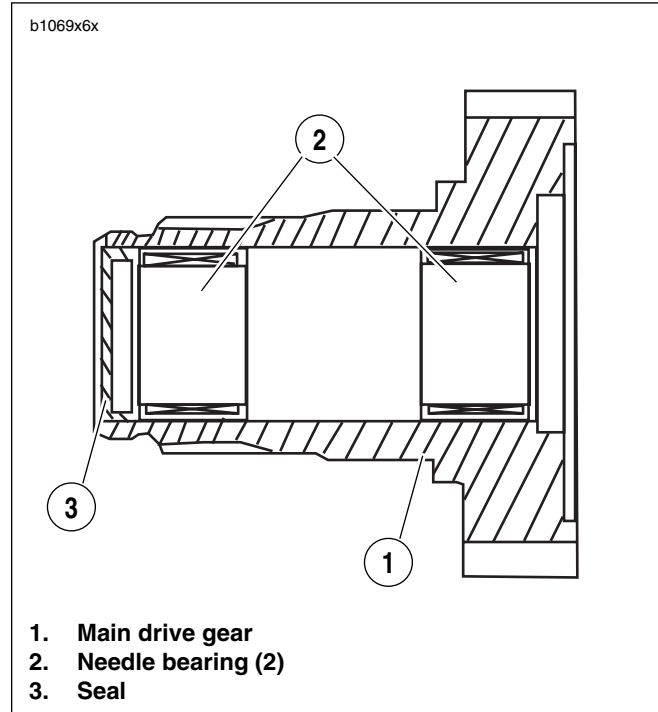

Figure 6-72. Main Drive Gear Assembly
3. See Figure 6-72. Tap in **new** seal (3) at threaded end of 5th gear to a depth of 0.060-0.030 in. (1.524-0.762 mm).